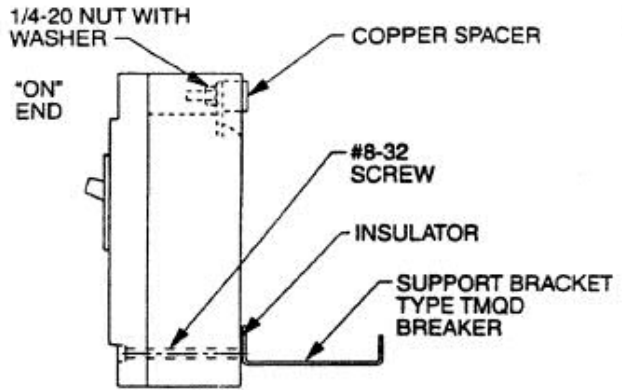
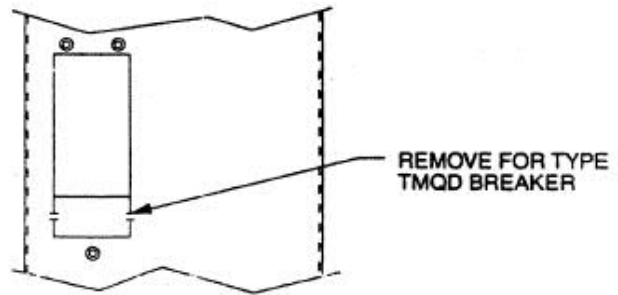

Fig. 2 TMQD Breaker Installation
Fig. 3 Twistout Illustration
3. If necessary, remove and discard the lugs from the line (ON) end of the circuit breaker.
4. Install the flat insulator from this kit over support bracket as shown in Fig. 2. The insulator has a self-adhesive backing, remove paper backing before installing.
6. Install two (2) new 11/16" long copper spacers from this kit over the 1/4" studs.
7. Rotate 180° only the bracket shaped as shown in Fig. 2. Also, remove twistout in cover per Fig. 3 at each breaker location.
8. Position circuit breaker over mounting studs as shown in Fig.2. Assemble, but do not tighten two (2) 1/4" nuts with washers onto the mounting studs.
9. Install and tighten one (1) #8-32 screw through load end of breaker case into metal support bracket below.
10. Torque the two (2) 1/4" nuts previously assembled to 50-60 lb.-in. (F. 6-6.8 N-m).